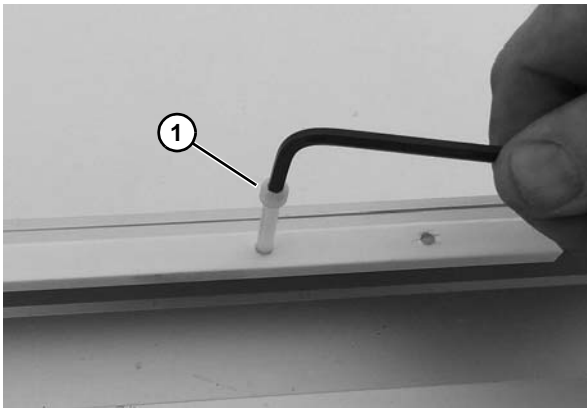

Figure 42
1. Insert the nylon screws (**Figure 42, item 1**) into the holes using a hex driver until the screw is flush with the bottom of the slide rail.